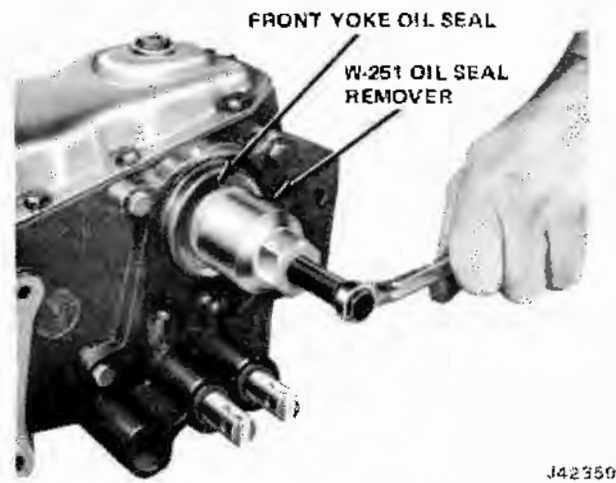

Fig. 8-10 Front Yoke Oil Seal Removal
(9) Remove front yoke oil seal using Puller Tool W-251 (fig. 8-10)
(10) Remove screws attaching the rear bearing cover and remove cover
(11) Position both shift rails in neutral.
(12) Remove left fork setscrew.
(13) Rotate left shift rail 1/4-turn counterclockwise. Hold shift fork and use a punch through rail pin hole as a handle to pull shift rail from case.
(14) Remove screws attaching front shift rod housing. Slide housing from remaining shift rail.
(2) Remove rear output shaft seal with Puller Tool W-251 (fig. 8-10).
(3) Remove speedometer driven gear and sleeve from rear bearing cap.
(4) Remove output shaft by tapping it with a soft mallet.
(5) Remove bearing cone and roller assembly from shaft by lightly tapping rear face of roller assembly.
(6) Remove speedometer drive gear and shims from shaft.
(7) If necessary, remove speedometer driven pinion bushing.
(3) Remove felt seal, oil seal gasket, and oil seal. Use Puller Tool W-261 to remove oil seal (fig. 8-10).
(4) Use Driver Tool W-143 to install seal. Install oil seal gasket and felt seal.